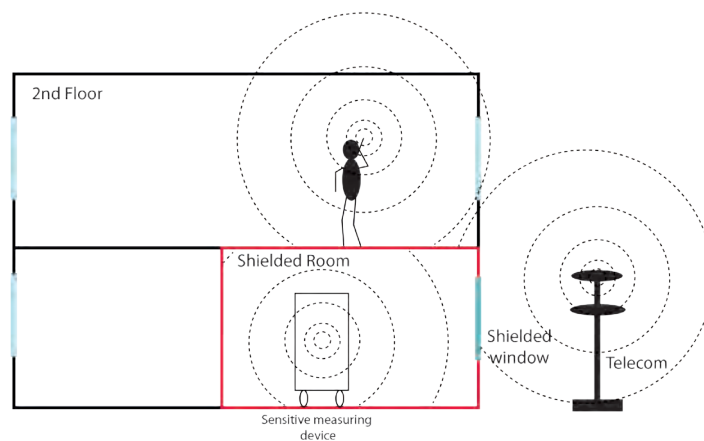

Figure 3: Shielding works in both directions
**3 Shielding works in both directions:** items inside the shielded room are shielded from outside influences. (Fig. 3)